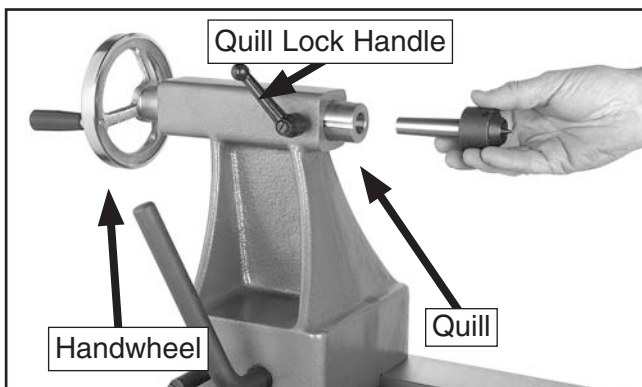

Figure 24. Installing center into tailstock quill.
1. On the tailstock, loosen the quill lock handle and rotate the handwheel until the quill extends out about 1", as shown in **Figure 24**.
3. Firmly insert the tapered end of the center into the tailstock quill, as shown in **Figure 24**.